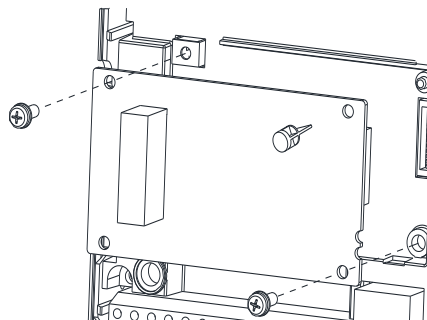

Figure 2
Step 2: Use a screwdriver to tighten 2 M3 screws in the direction shown in Figure 2 with a torque of 4-6kgf.cm.